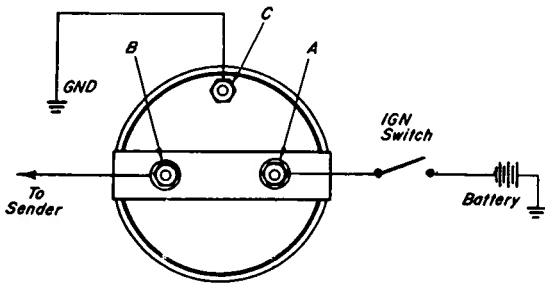

FIGURE 1
1. If gauge has THREE TERMINALS; (A) for wire to ignition, (B) for wire to sending unit, (C) for wire to ground (and for lighting kit 366-CH bracket, if lighting is desired). FIGURE 1